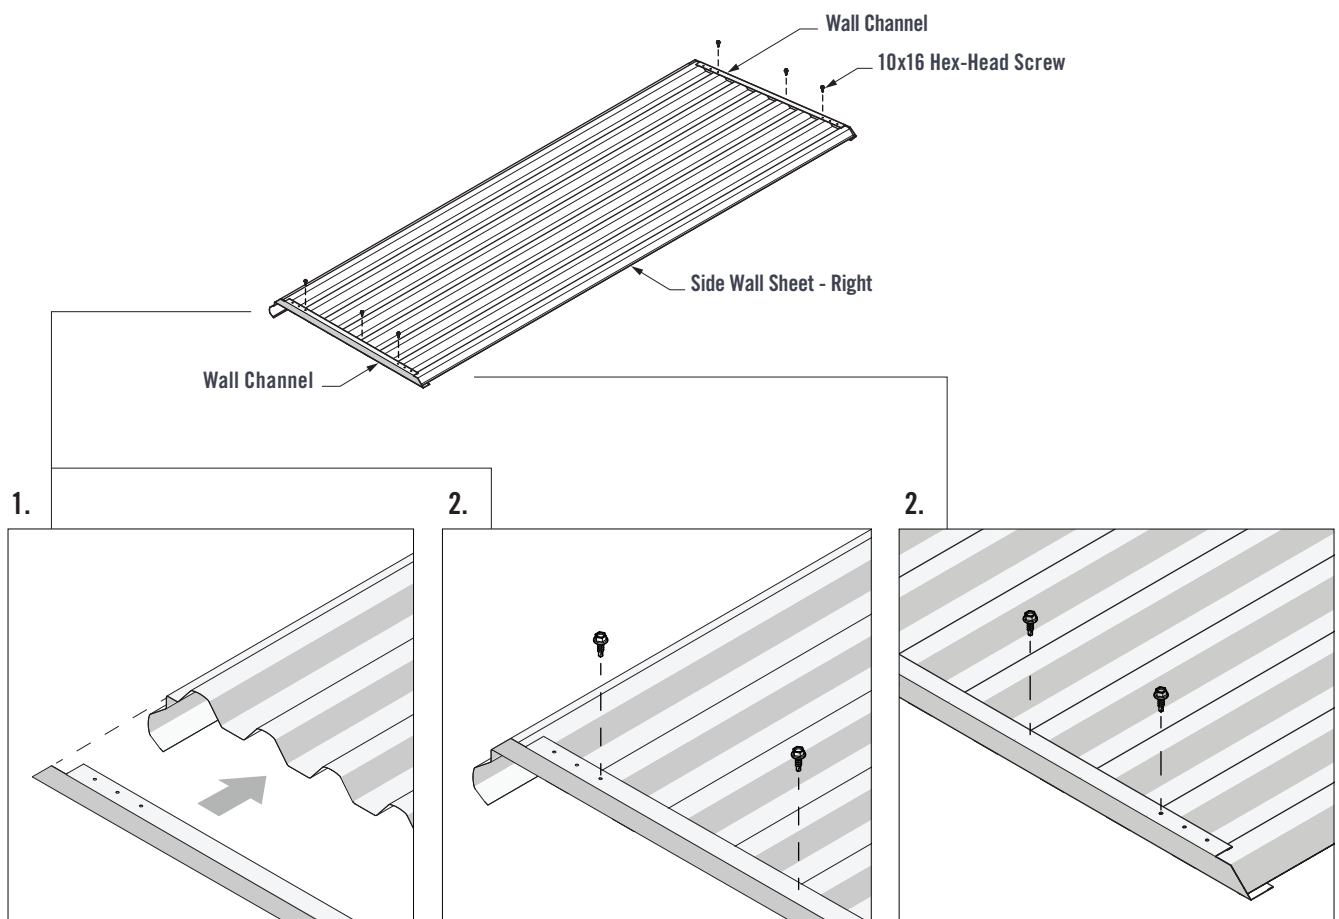

FIGURE 2.2
1. Fit the Wall Channels over the Side Wall Sheet (Right). The end of the Wall Channel should fit up against the end of the Corner Wall Sheet (Figure 2.2).
2. Fasten through the third pilot hole of both Wall Channel ends and into the Wall Sheet crests. Fasten through the Wall Channels and into the third Wall Sheet crest using one 10x16 Hex-Head Screw in each Wall Channel (Figure 2.2).